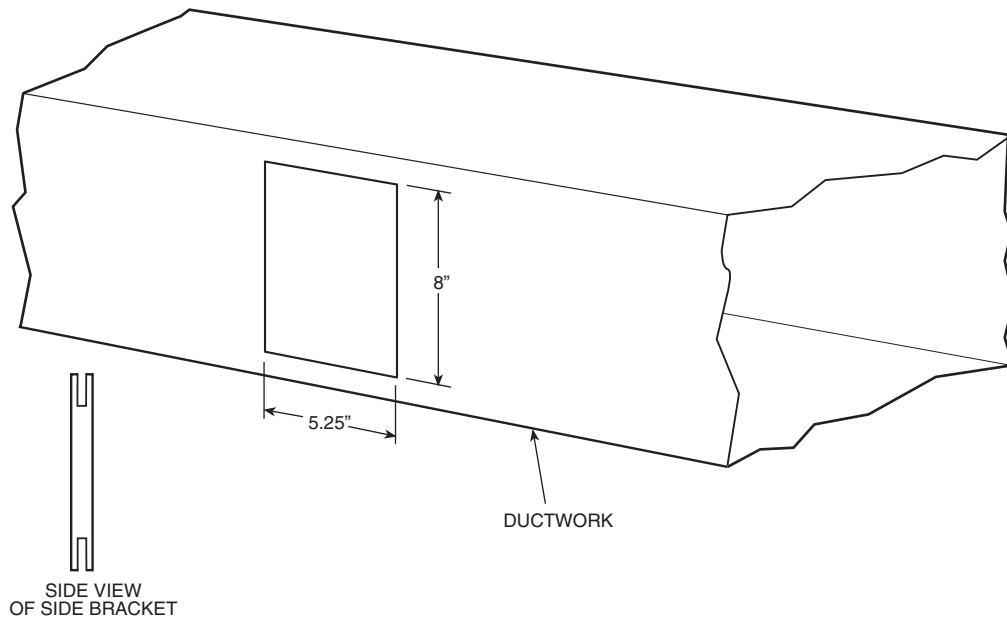
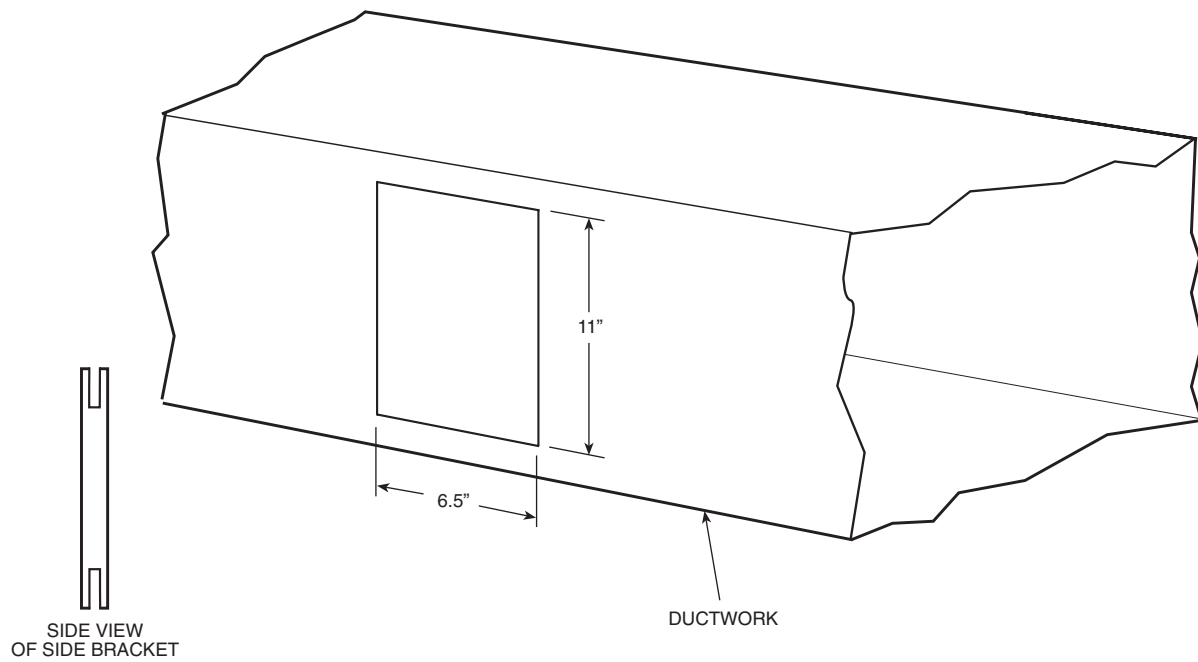

Fig. 1 — Hole in Ductwork (P103-FIBER15)
Fig. 2 — Hole In Ductwork (P103-FIBER35)
1. Cut a square hole in the side of the ductwork. For accessory kit P103-FIBER15, cut a 8-in. high by 5.25-in. wide hole. See Fig. 1. For accessory kit P103-FIBER35, cut an 11-in. high by 6.5-in. wide hole. See Fig. 2.